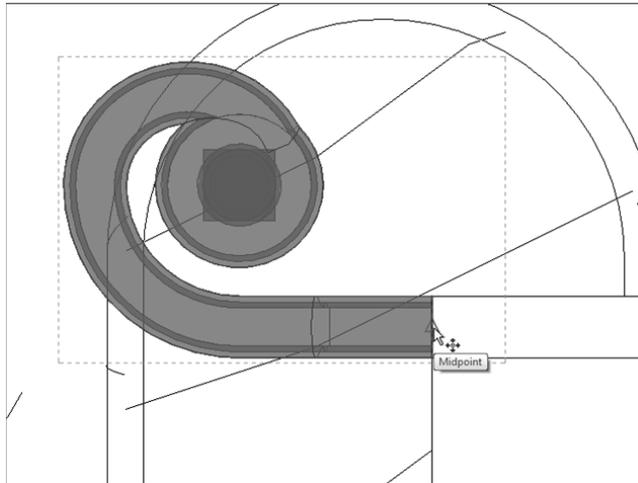

FIGURE 10.70: Moving the post to align with the stair railing
9. Move the post from the midpoint of the post's end to the midpoint of the stair railing's end, as shown in Figure 10.70.